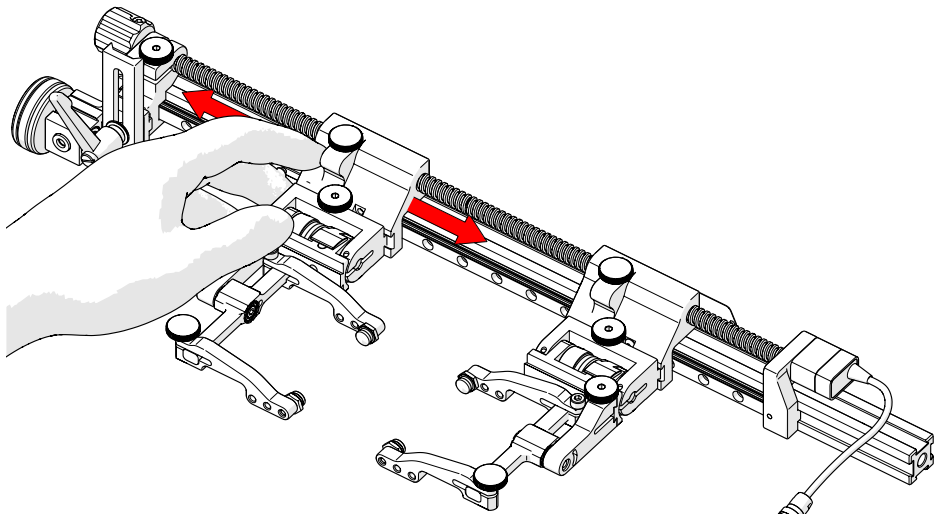

Fig. 168 - Quick positioning
3. When the knobs are loose, it is possible to push the carriages in place for quick adjustment (Fig. 168). Tighten both knobs to lock the carriages in position.